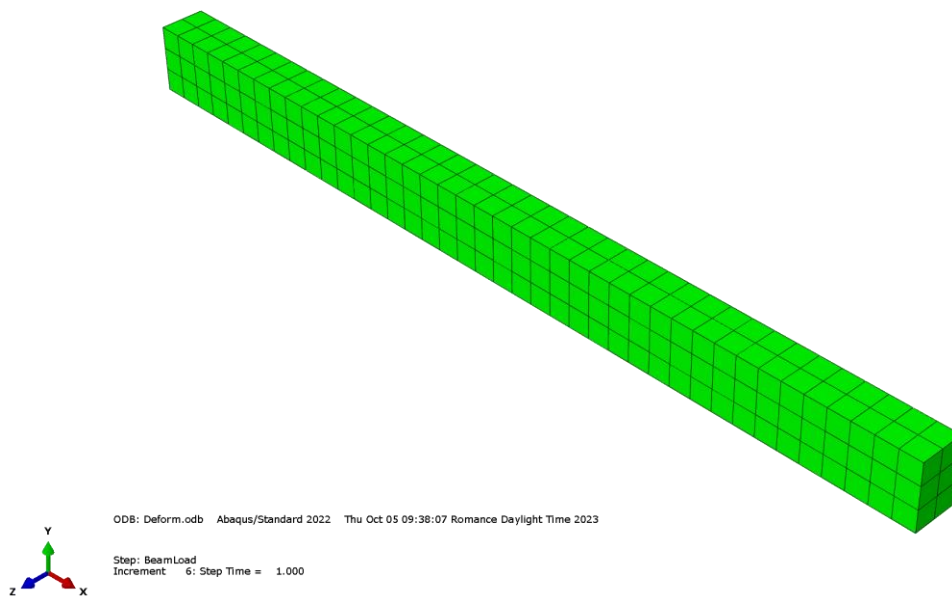

Figure 1.
Figure 1 shows a figure of the beam model with 50.0 mm 8-node brick elements (C3D8R).
- 1) Figure 1 shows the deformed shape on top of the undeformed geometry.